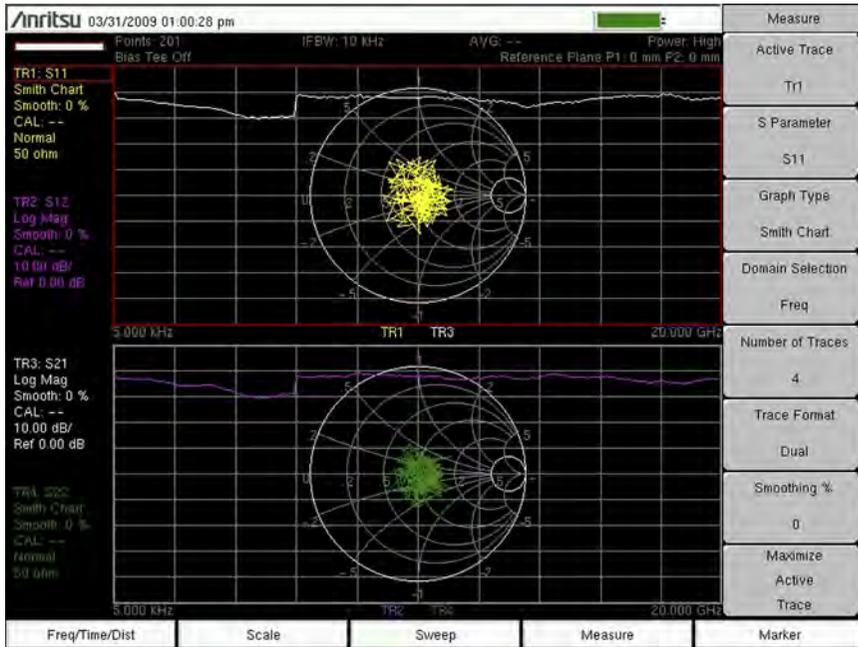

Figure 3-3. Format = Dual, Traces = 4
3. Next, set Trace Format = Dual. Note how the 4 traces are assigned to the split display. TR1 (Trace 1) and TR3 are assigned to the top graph. TR2 and TR4 are assigned to the bottom graph. Refer to Figure 3-3 on page 3-5.